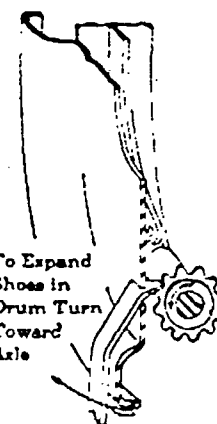

Fig. 4
2. Loosen anchor pin nut at (C).
3. Tighten star gear (A) until wheel can just be turned by hand. (See Fig. 4.) Then tap anchor lightly toward drum.
4. Snug up anchor pin nut at (C) —not tight.
6. Back off star gear (A) twelve notches.
7. Check and set clearance on secondary or top shoe .010" at anchor end and .010" at star gear (adjusting end) by means of eccentric (B).
8. Tighten anchor pin nut at (C) with a 16-inch wrench.
3. Turn eccentric (A) in direction of forward wheel rotation until .010" feeler gauge is snug at adjusting points of secondary shoe. Tighten eccentric lock nut.
4. Expand brake shoes by turning star gear (turning star wheel down and toward brake drum expands the shoes—see Fig. 4, Page 11) until light drag is felt on the brake drum.